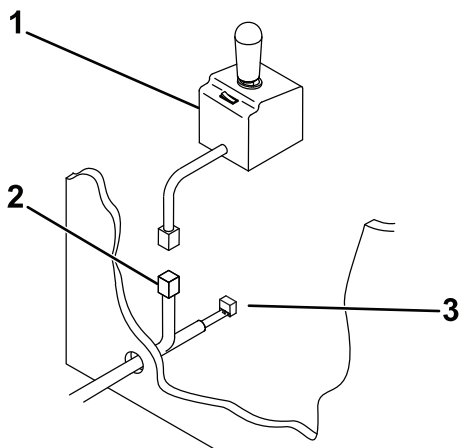

Figure 1
6. Pull the plow controller connector and module connector (10-pin Molex Minifit) into the vehicle cab through the hole in the firewall (Figure 1).